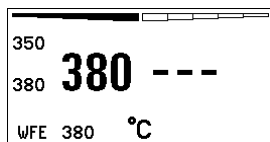

Fig. 38: front WFE
The WX 2 Soldering Station detects automatically which auxiliary device is connected. The WX 2 Soldering Station shows the symbol or name of the connected auxiliary device (31/25) on the left (front port (11), see Fig. 38) or right (rear port).